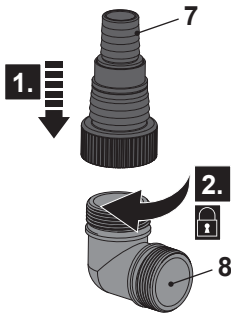

Fig. 1
1. Align and screw the hose connector (7) clockwise onto the adaptor (2") (8) if it is not already pre-assembled (Fig. 1).